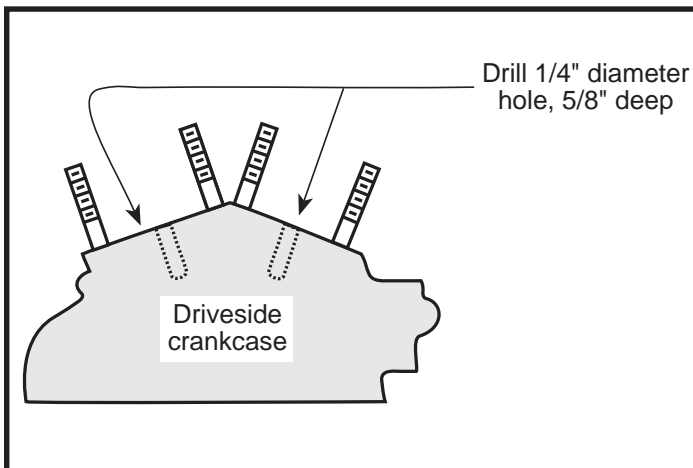

Figure 2
3. Drill ¼" diameter hole perpendicular into crankcase gasket surface ⅝" deep. **See Figure 2.**
6. Using lower oil return hole in cylinder spigots as a guide, drill ¼" diameter connecting holes in crankcase to intercept holes drilled ⅝" deep in **Step 3**. **See Figure 2 and Picture 5.**